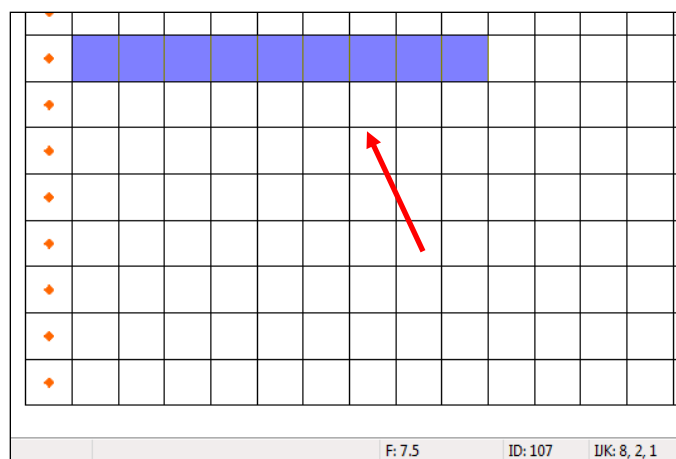

Figure 5 Cells to be selected
The drains are located in the top layer (Figure 5).
3. Using the **Select Cells**  tool, draw a box around cells 2–10 on row 8 (Figure 5).